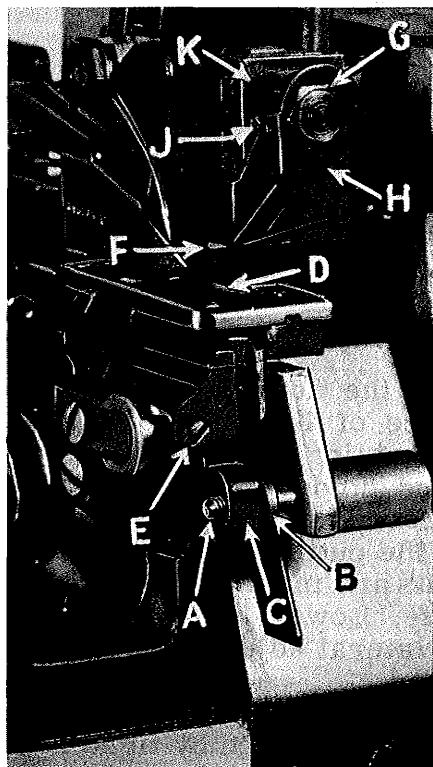

Fig. 13
Replace lower knife holder assembly. In replacing the lower knife holder assembly, tighten screw (A, Fig. 13) so that when the face of the flange on sleeve (B) seats against the throat plate mounting bracket (C) a free lateral motion of the lower knife and holder assembly is obtained when the knife is manually pressed at its upper corner. Lower knife (D) should be set with the cutting edge flush with the throat plate surface. Adjustments are made with hexagonal head screw which holds lower knife. Lower knife is spring pressed against upper knife. So no lateral adjustment is necessary when width of trim is changed.
Replace upper knife assembly. Clamp upper knife (F, Fig. 13) in position, setting nut (G) to hold clamp (H) in its most clockwise position against upper knife. At